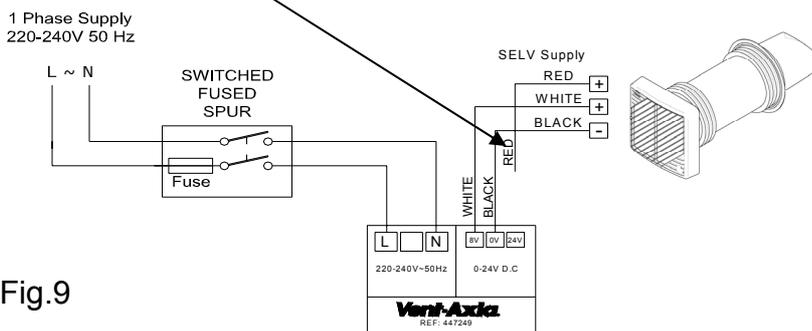

Fig.9
- Low speed / Off – Disconnect Red (Fig.9)